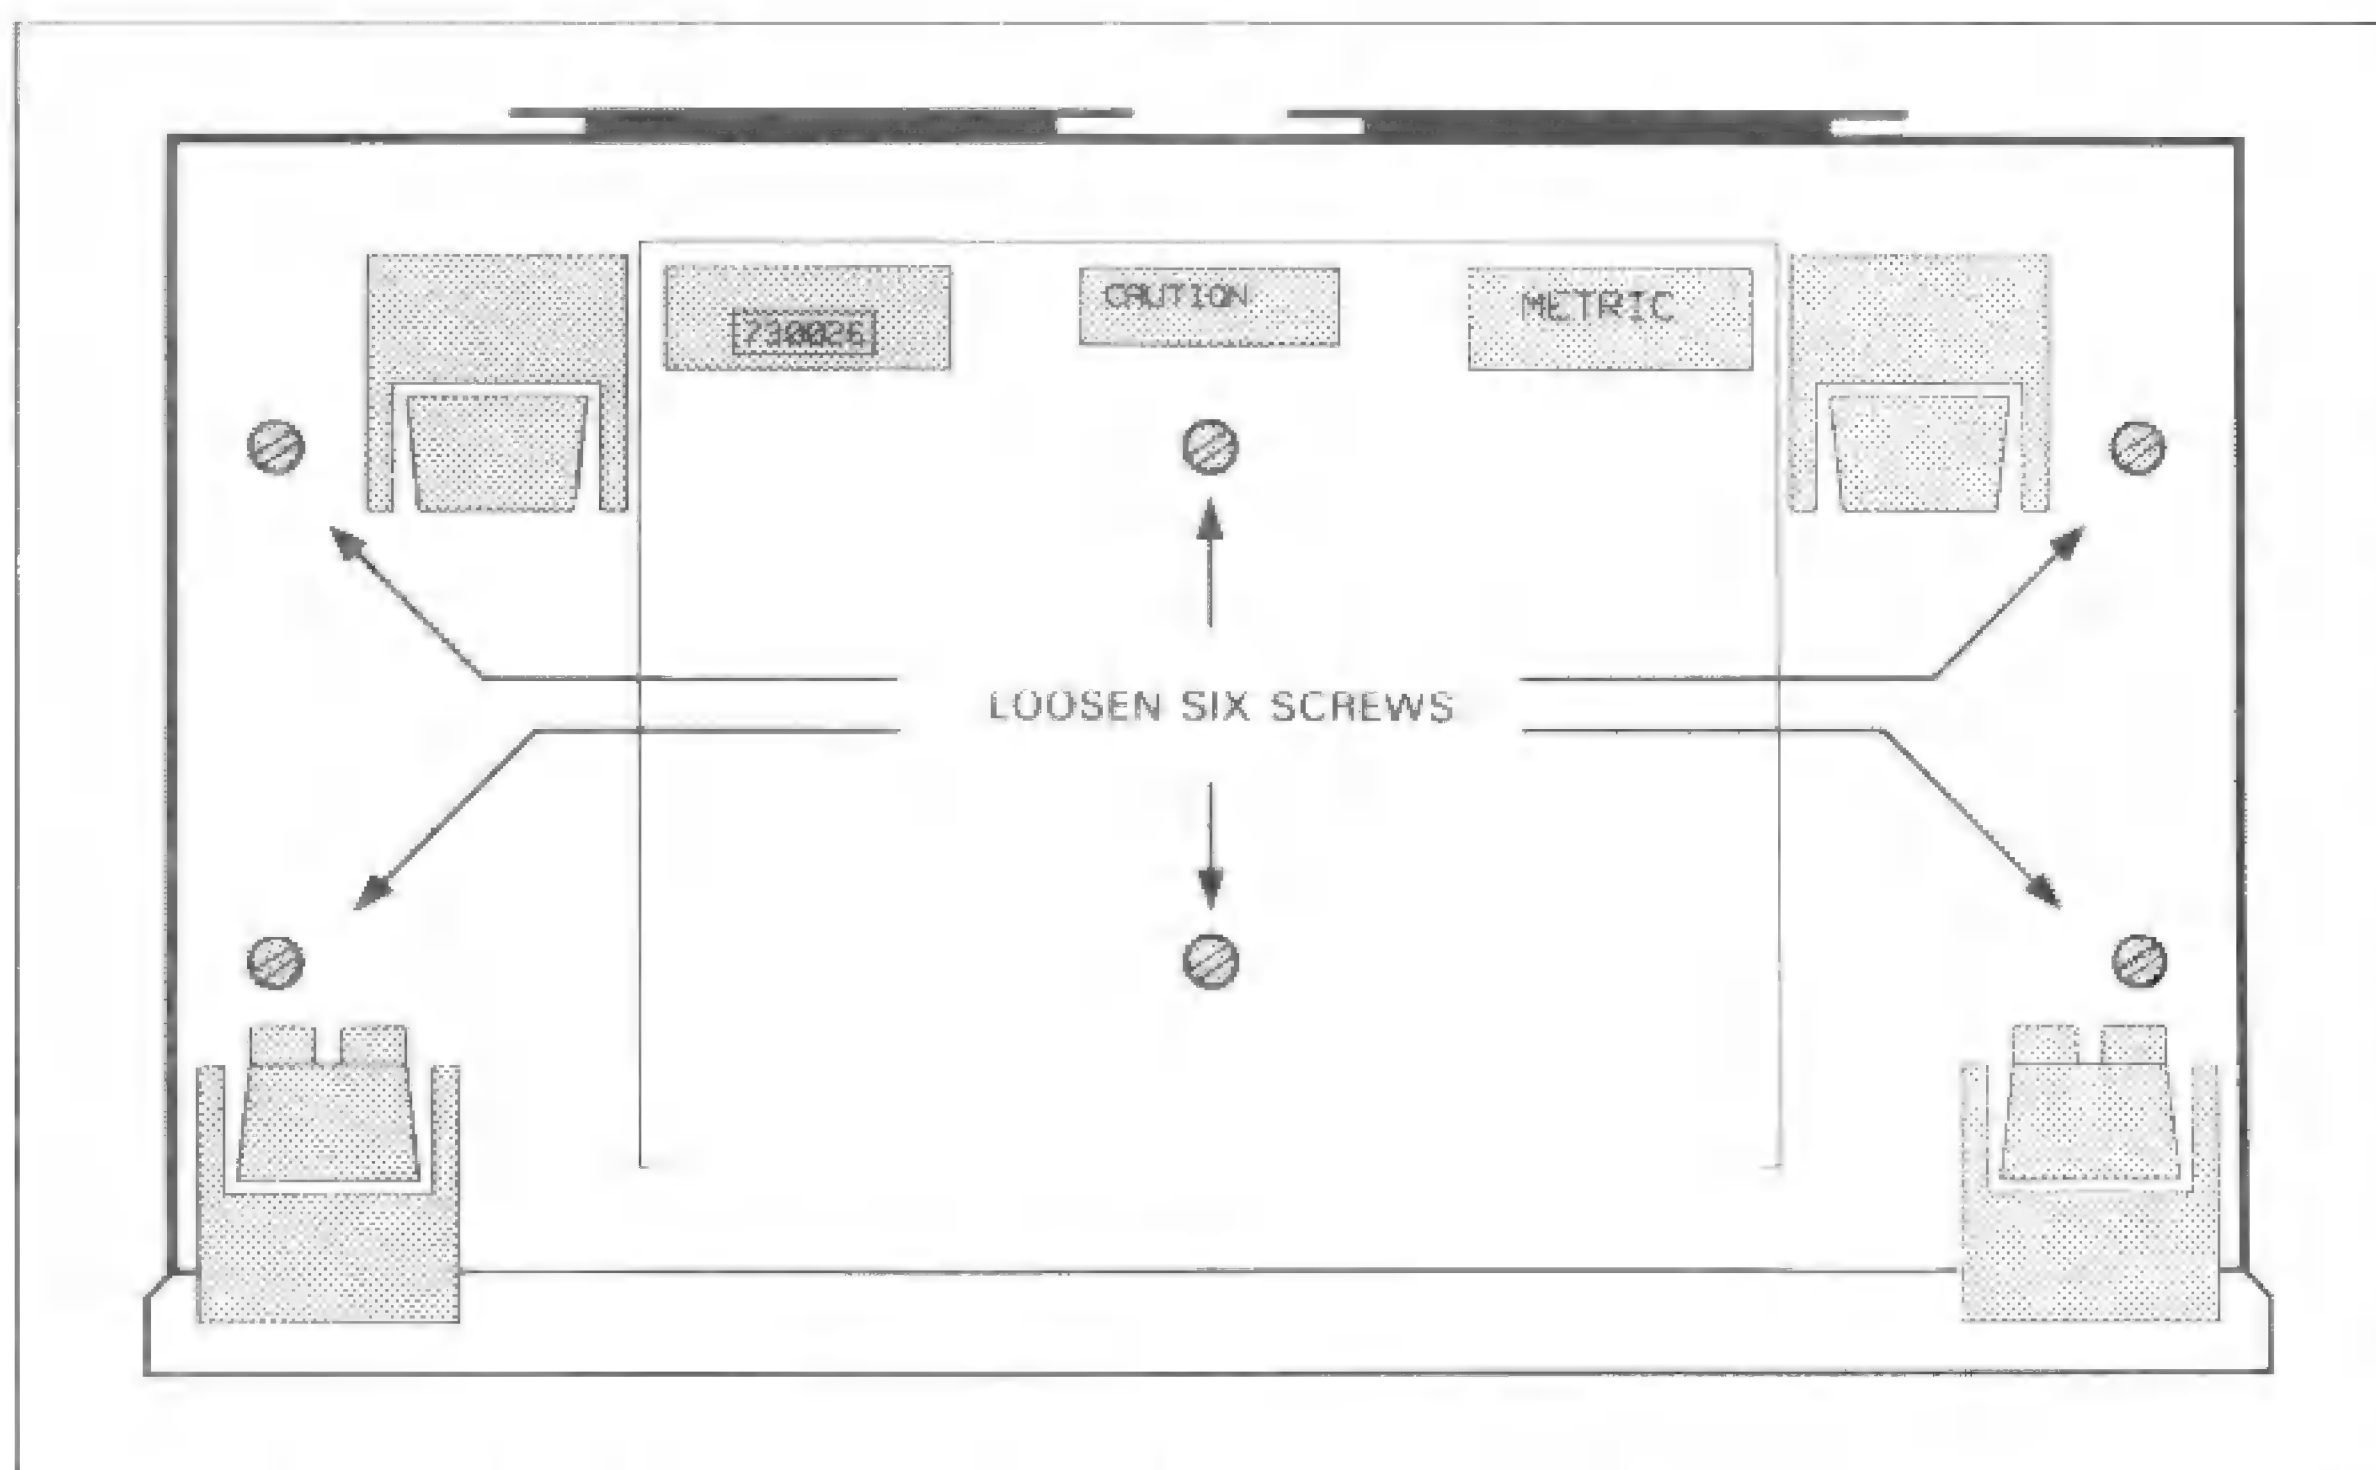

Figure 1-8-4. Loosen Bottom Screws
b. Turn the instrument upside down. This is preferably done on top of a protective mat to reduce the possibility of scratching or marring the instrument case. Refer to Figure 1-8-4 and loosen the six screws on the instrument bottom.